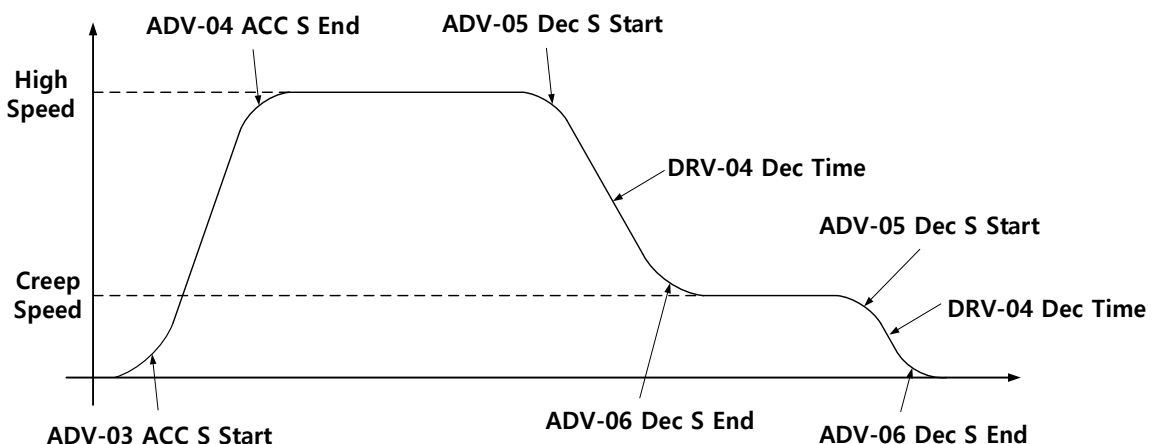

Fig. 8 S-curve operation
- 1) To make better ride comfort performance, [ADV-01 Acc Pattern] and [ADV-02 Dec Pattern] should be set to "S-curve". And appropriate values for [ADV-03 Acc S Start], [ADV-04 Acc S End], [ADV-05 Dec S Start], [ADV-06 Dec S End] should be considered for ride comfort. S-curve graph is shown in the following Fig. 8.